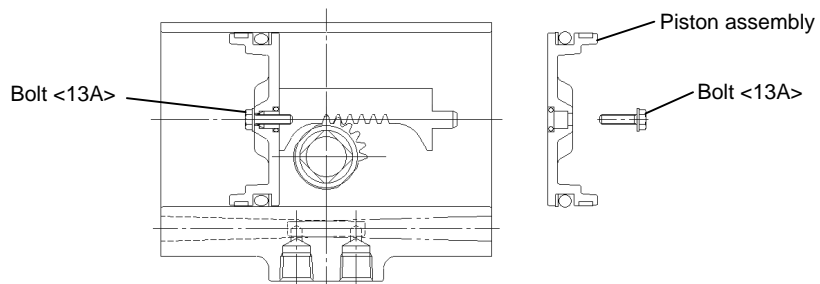

Fig.20
- (8) Assemble another piston with another projection of the rack. Securely tighten it with a hexagon headed bolt and a flat washer. Also at this time tighten the first piston and the first rack projection securely (Fig.20).